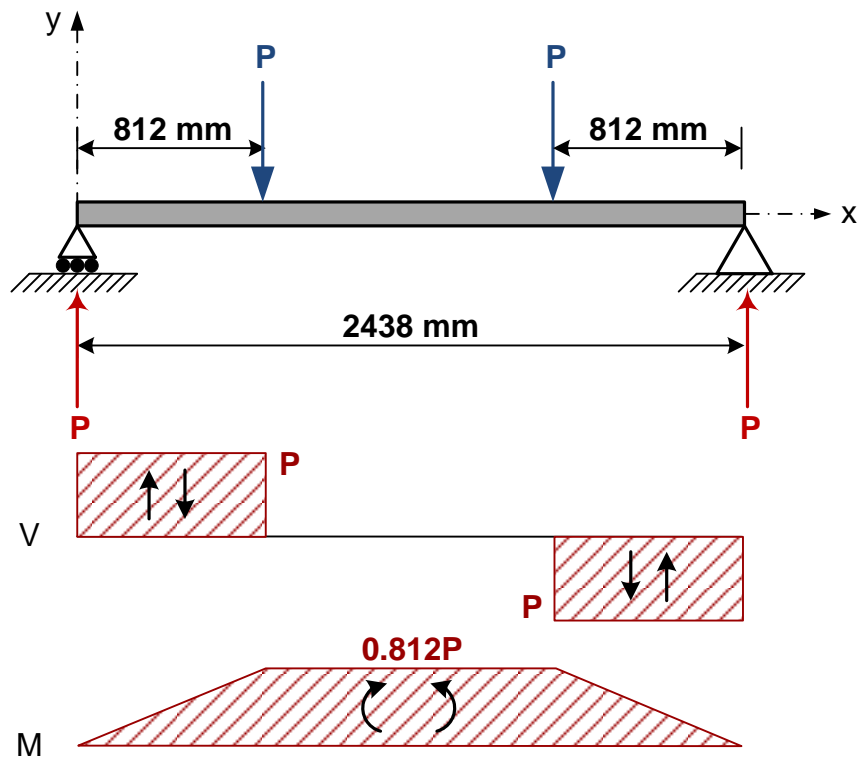

Figure 4: Applied loading and shear force and bending moment diagrams
4. Apply two concentrated loads of 20 lb at $1/3$ of the span length from the supports (Fig. 4), and read the corresponding strains for each gauge.